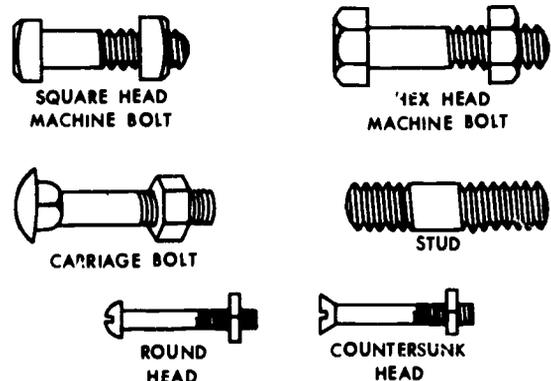

Figure 121. Bolts.
a. Bolts. A bolt is an externally threaded fastener whose threaded and unthreaded portions are the same nominal diameter. The unthreaded portion is known as the grip. A bolt head can be square, hexagonal, domed, or flat circular countersunk shaped, as shown in figure 121. Bolts must be assembled with a nut in order to serve as a fastener. A stud can be considered a type of bolt when it is installed in the parent metal.